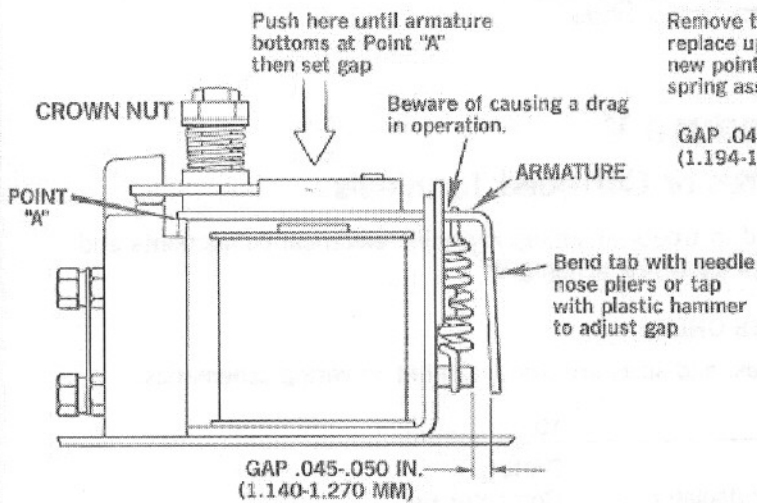

Figure 6
Procedure to adjust and set point gap. See Figures 6 & 7.
STEP 4 Press down on upper points until armature bottoms on Point "A", see Fig. 6, then set gap by bending tab on armature with needle nose pliers or slightly tapping in tab with plastic hammer as required.
(See Illustration Figure 6 for details)